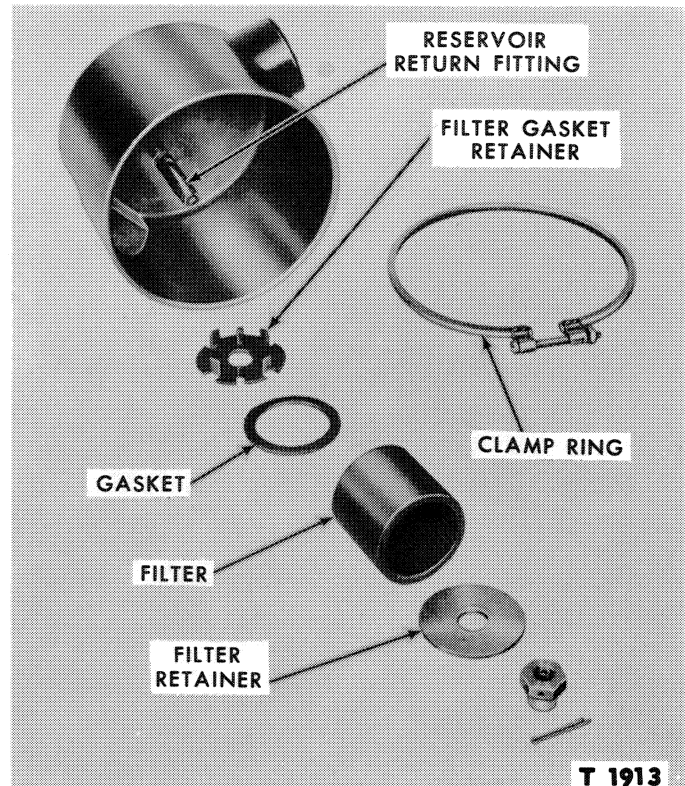

Figure 14—Reservoir Filter Assembly—Disassembled
17. Install the filter in the reservoir. Fit the filter gasket retainer, a new rubber gasket, and a new filter (in that order) over the reservoir return fitting, Figure 14. Place the filter retainer on the